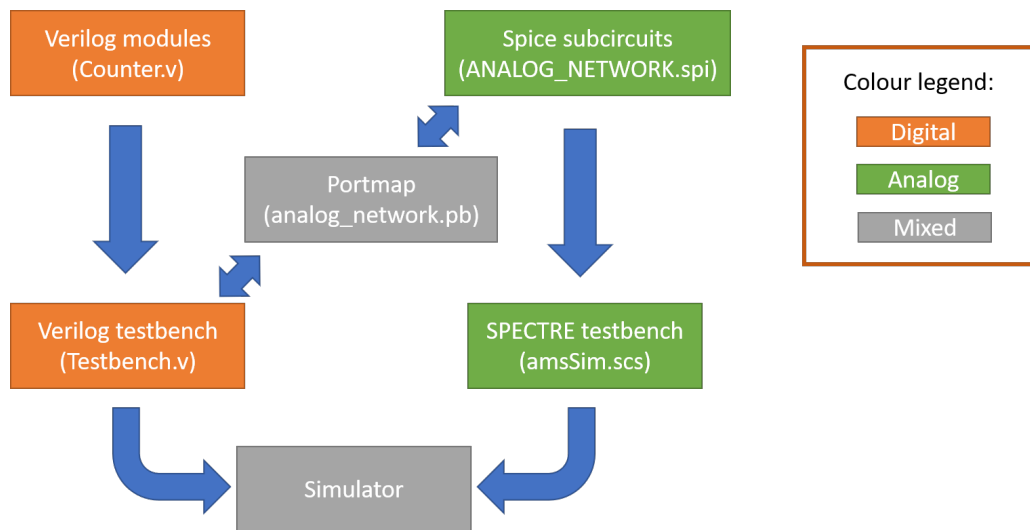

Figure 34: Simulation file structure
4. How do we combine the digital Verilog files and the analog Spice files so that they can be simulated together? Figure 34 gives an overview of the file structure. This figure will be discussed in detail in the following steps.